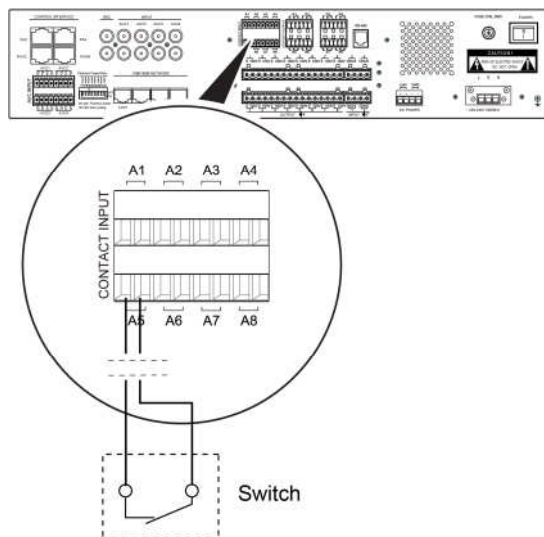

Figure 17 Connect External Dry Contact or Switch
3. Connect the external dry contact equipment or switch to the other end of the dry contact input cable, as shown in Figure 17.